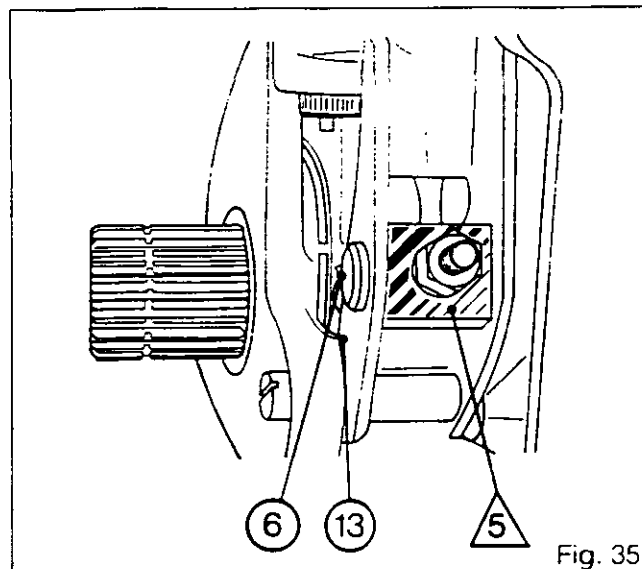

Fig. 35
**Note:** The plate /5\ is rectangular. It must be positioned horizontally, lengthwise, on the pin(6) in the lever (13) to be correct (Fig. 35).